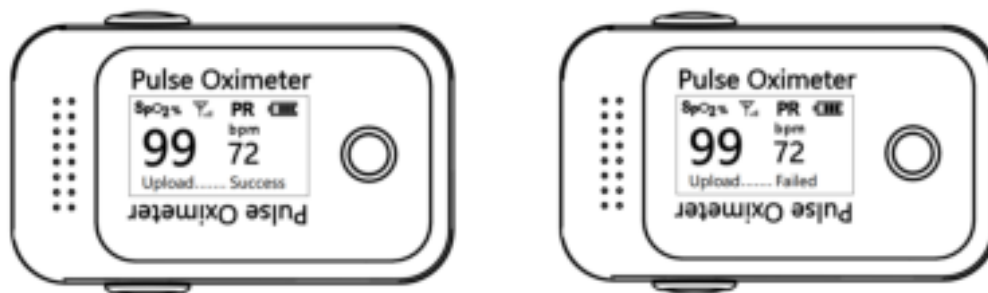

**Figure 10**
c. When there is no finger inserted, the invalid value "--- ---" will be displayed on the screen, as shown in **Figure 10**.